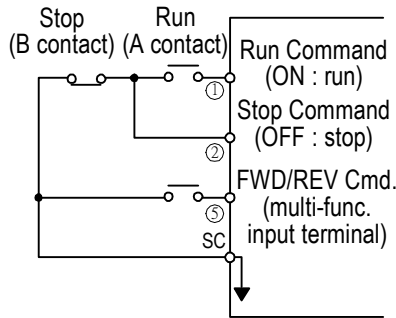

Fig. 37. 3-wire mode connection diagram
- Under 3-wire initialization mode (Sn-03= 8 or 10 or 12) , the multi-function input terminals ⑤~⑧ have setting “00”, the inverter will be in the 3-wire mode operation. As shown in Fig. 37, the Forward/Reverse change mode is set at the terminal ⑤.